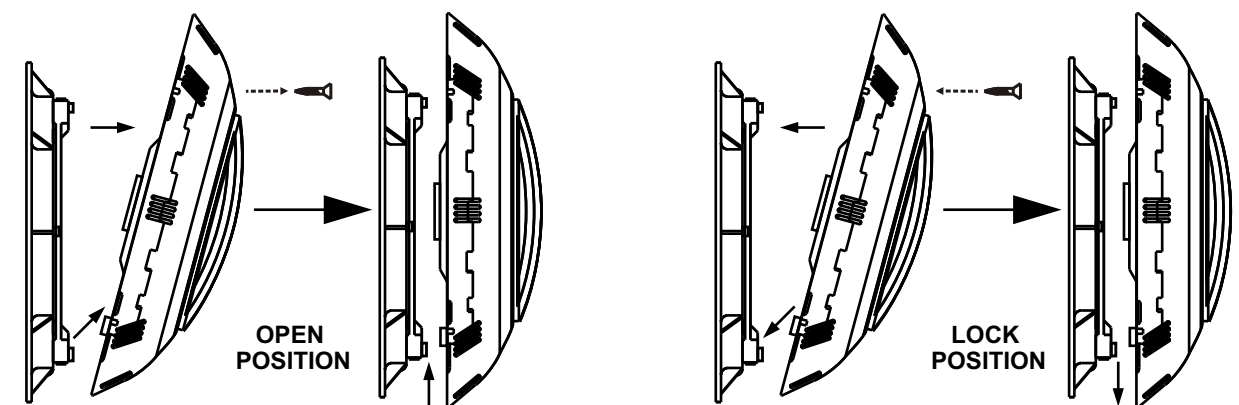

Figure 4.
10. Rotating Locking System ensures light is secured to bracket, see Figure 4.